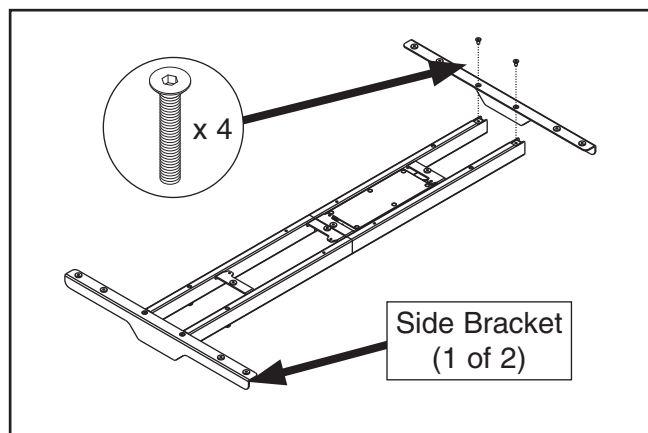

Figure 3. Attaching side brackets.
1. Attach side brackets to ends of support beam with (4) M6-1 x 12 flat head cap screws (see **Figure 3**).